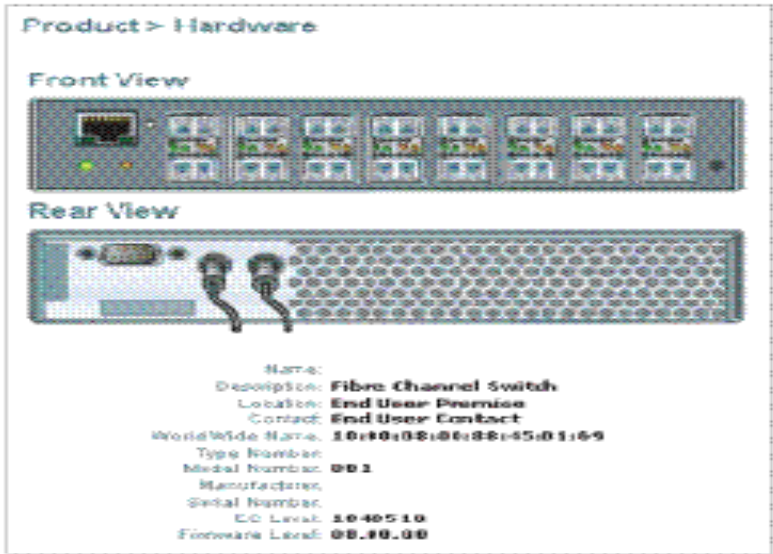

Figure 2-3 Hardware View
4. Enter the default Internet Protocol (IP) address of the switch (**10.1.1.10**). The *Enter Network Password* dialog box appears.
7. Click *Switch Details*. The *Hardware View* appears (Figure 2-3).